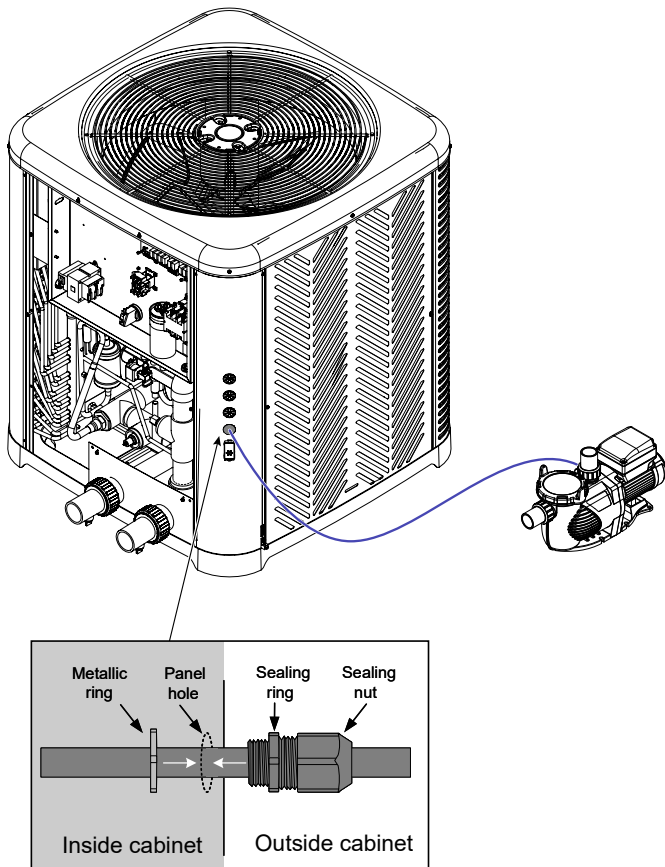

Figure 131. Wiring External Devices Using Liquid Tight Connectors
6. In the case you decide to remove the grommets to connect external devices to the heater, run wires using metallic conduit or outdoor-resistant cables. Then, connect the conduit or cables to the knockout using liquid tight connectors to prevent water or dust from entering the system. See Figure 131.